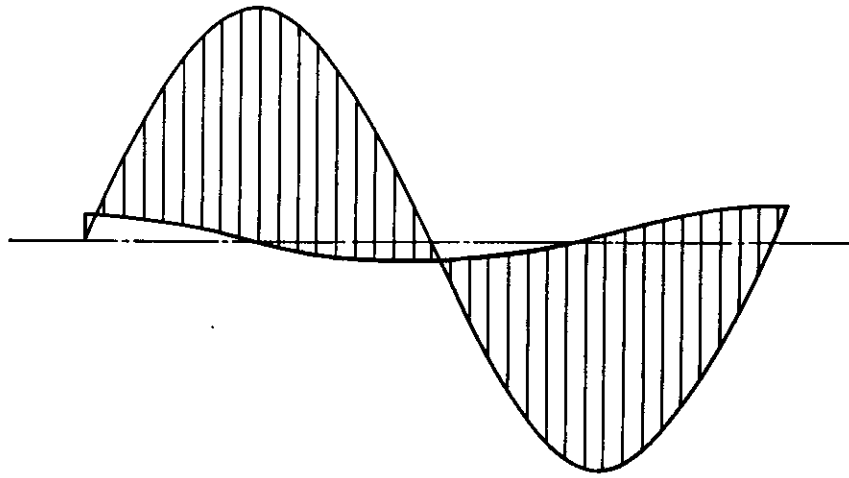

Fig. E3a Separation
- C. The 1 kHz is 90° out of phase with the envelope of the composite signal (see Fig. E3a and b).
See Fig. E3a.
- b) Defect capacitor or coil in the Composite filter. See Figs. E3a and b.
- c) The oscilloscope is in ac mode. See Fig. E3a.